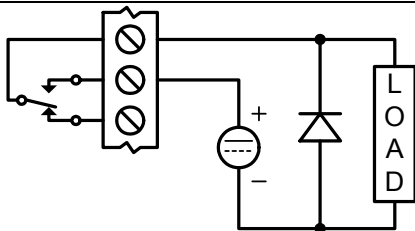

Figure 9: Low Voltage DC Loads Protection
4. For low voltage DC loads, place a diode across the load with a reverse breakdown voltage two to three times the circuit voltage and a forward current at least as large as the load current. Shown in Figure 9